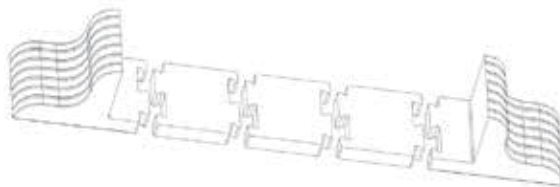

Fig.3-2 Installing support bases with spacers
Step 2: If optional external battery cabinets are connected to the UPS to provide additional battery run time, assemble the spacers and the support bases, as shown in Fig.3-2.
30kVA connect to the battery with Anderson connectors (See Fig.3-2).